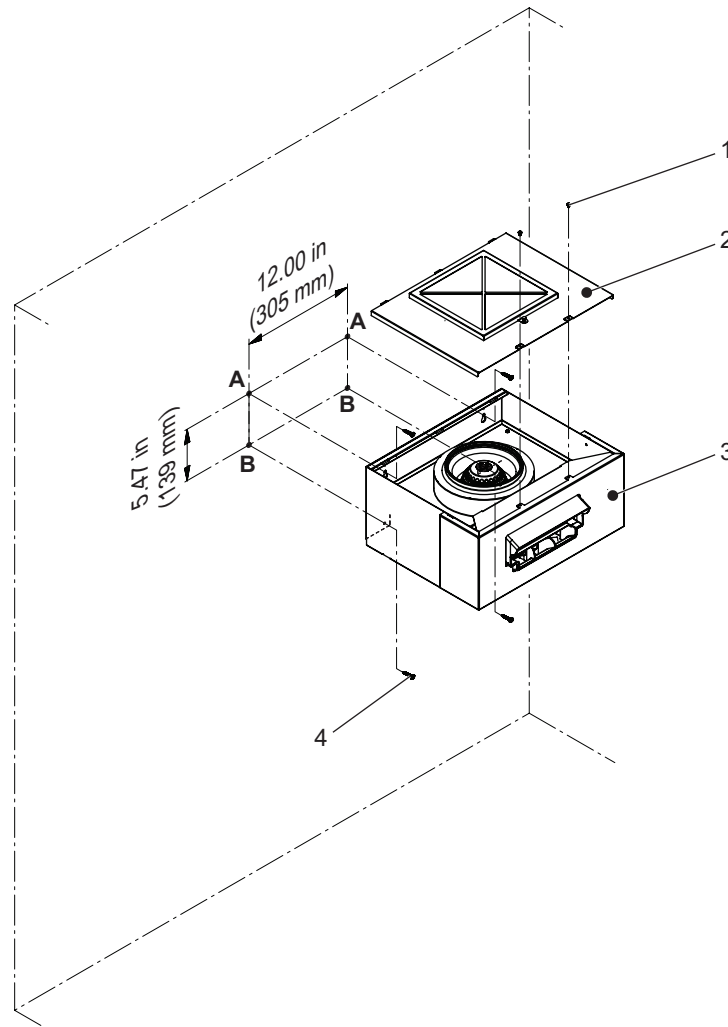

Figure 8: Wall-Mounted Blower Pack
- a. Locate a 2×4 wooden stud or equivalent support in the mounting surface, and mark the attachment points "A" and "B" at the desired position with the help of a level – refer to Figure 8.